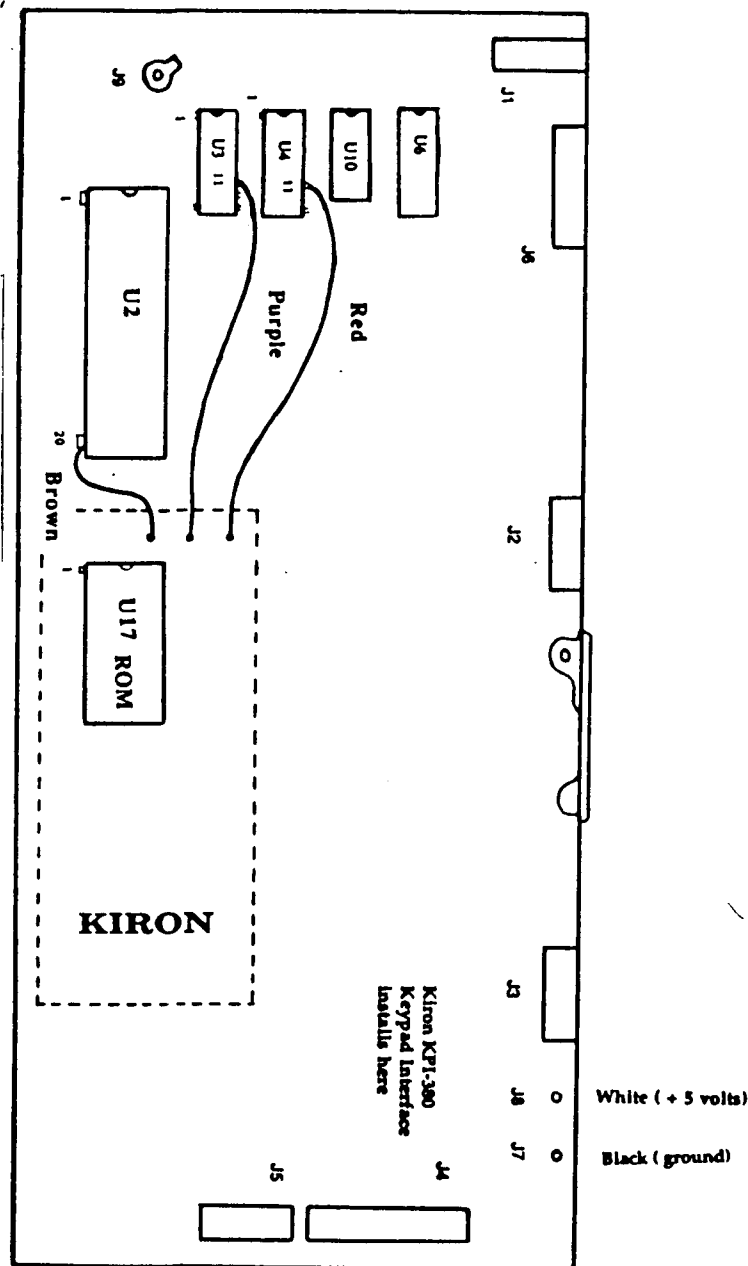

Figure 2: Control Card (A8)
With the exception of the two single wires near the upper right corner of the card, it is not possible to make an error in reassembly since each cable has a different number of conductors and a unique connector with blank key pin. Fig 2 shows the location of the various connectors.
In the next steps you will gradually slide the control card upwards and remove its attached cables. As each cable is removed try to keep it out of the way by placing it in another slot or under another wire in an adjacent slot. The removal steps are as follows (Refer to Fig 2):
1. Place the control card on the work surface (a conductive surface is recommended) component side up and compare with Fig 2.
4. Notice the four smaller IC's running up the board from the top left corner of the microprocessor. They are U3, U4, U10 and U6, see Fig 2. We will be making connections to the microprocessor and to the lower two IC's, U3 and U4. Note that U3 is clearly labeled to the left of the IC itself but that U4 has the label between U3 and U4 and the label for U10 is just above U4.
6. Next identify the three pins on U3, U4, and U2 as noted in Fig 2. Using a small-tip IC type soldering iron and the small diameter solder supplied, tin the pins by applying heat for a maximum of 5 seconds. Overheating can damage either the IC or the circuit board. Use only a small amount of solder. Despite our cautionary statements damage is very unlikely. Be sure that you apply enough heat so that the solder flows. We don't want any cold solder joints! Inspect the finished work to be sure there are no solder bridges to adjacent components, pins, or traces.
8. Finally solder the wires as shown in Fig 2 to the previously prepared IC pins. There are three wires coming from the Kiron board. The upper one [Red] goes to U4, pin 11; the middle one [Purple] goes to U3, pin 11; and the lower wire [Brown] goes to pin 20 of the microprocessor, U2.
The battery backup memory adapters from Kiron Corporation attach in place of the ROM integrated circuit at location U17 on the Control Card (A8), see Fig. 2 of the main text.